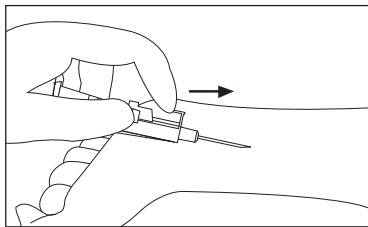

Figure 8
9. Use the push tab (see Figure 8) to advance the catheter. Remove the needle from the catheter and discard into a sharps container.